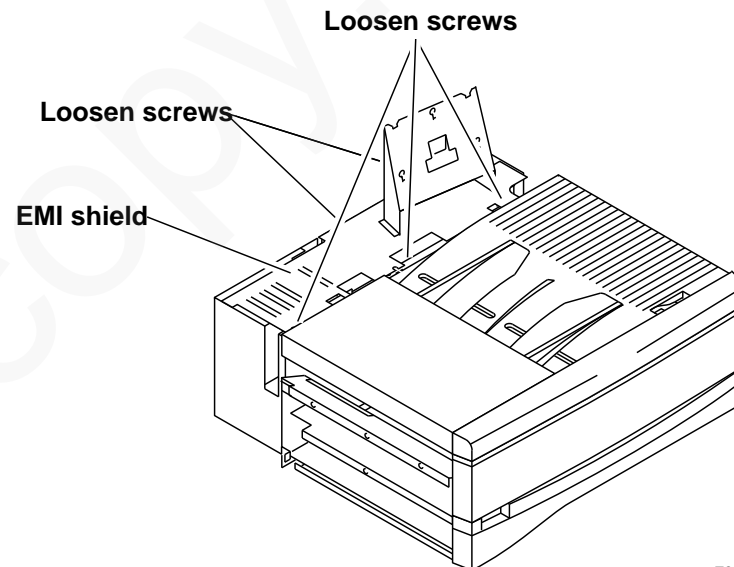

Figure 4. EMI shield removal
- a. Loosen five screws (Figure 4).